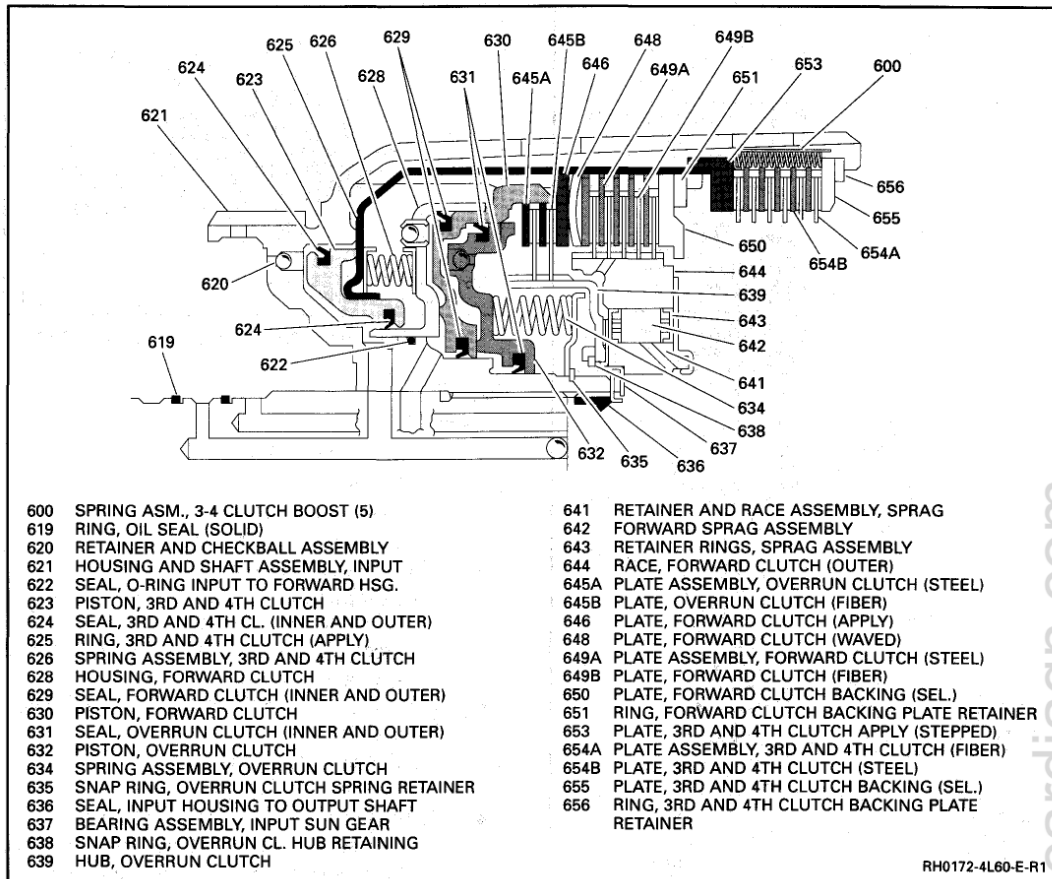

Figure 77 Input Clutch Assembly
- The 3-4 clutch apply plate (653).
- The 3-4 clutch plates (654).
- Start with steel and alternate with composition as shown in (Figure 77).
- The 3-4 boost springs (600).
- The 3-4 clutch backing plate (655) and retainer ring (656).